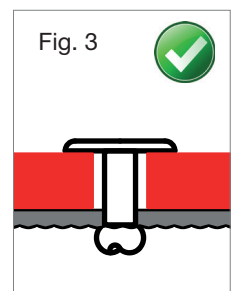

Fig. 3
- 5) Rivets and screws are set centered and straight in the drilling hole (Fig. 3).